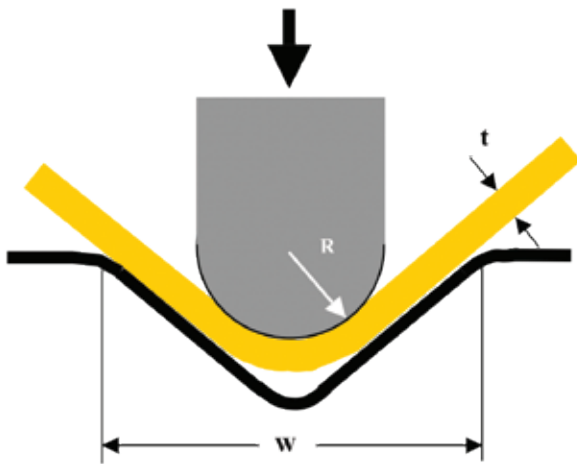

Figure 1. Schematic diagram of bending.
All BISALLOY® Armour steel grades can be cold bent by the brake press-bending method as shown in Figure 1. Plate rolling techniques can also be employed. However, BISALLOY® Armour steel grades have higher hardness and strength levels compared to plain carbon steels and therefore suitable consideration of sufficient machine power, plate bending direction and former radii (R) must be made. BISALLOY® Armour steel plates should be bent at room temperature to avoid reduction of mechanical and ballistic properties.